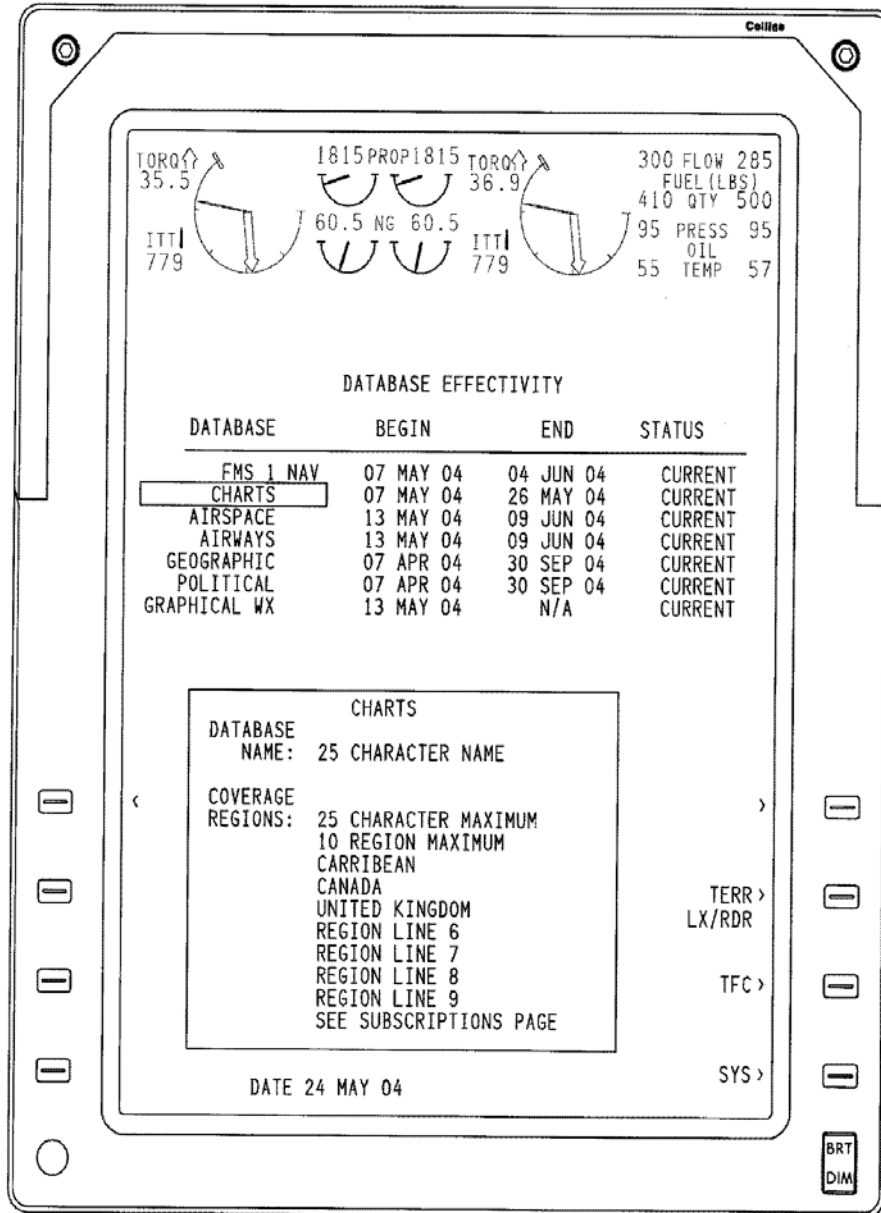
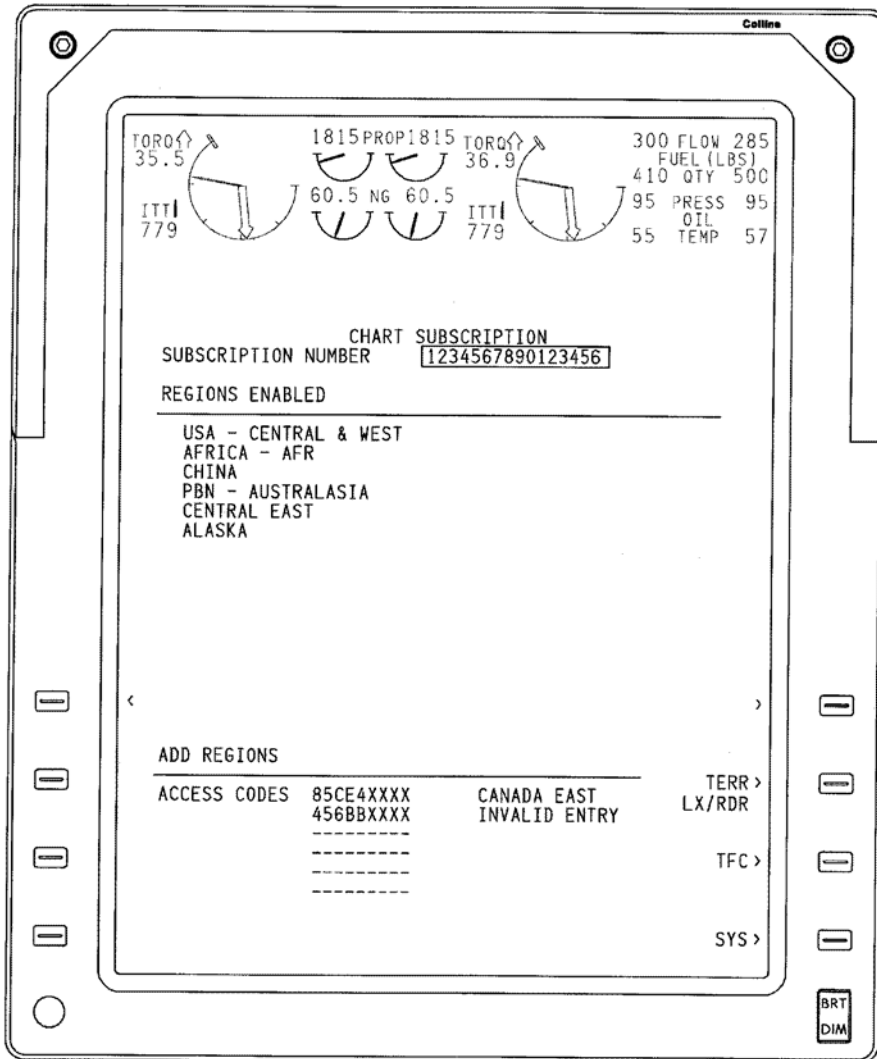

Fig. 208 - Database Effectivity Page
Fig. 209 - Chart Subscription Page
- (1) Make sure the data on the DATABASE EFFECTIVITY page (Ref. Fig 208) is correct:
- (2) Push the STAT button, on the CCP, to show the STATUS MENU on the MFD.
- (3) Turn the MENU ADV knob, on the CCP, to position the focus indicator around the DATABASE EFFECTIVITY line.
- (4) Push the PUSH SELECT button to show the DATABASE EFFECTIVITY page on the MFD.
- (5) Wait one additional minute, from the time a valid File Server Configuration page is displayed until it is ready to transfer file information, for the FSU to initialize. Enhanced Maps, FMS Charts and Electronic Charts functions will not operate during this time. FSU INOP will be displayed.
- (6) When the FSU is up and running, make sure the MFD shows each individual data base, each with Begin and End dates (or "N/A") and STATUS.
- (7) Make sure the effectivity dates of data bases loaded are as expected.
- (8) Make sure the CHART SUBSCRIPTION PAGE (Ref. Fig 209) is properly set.